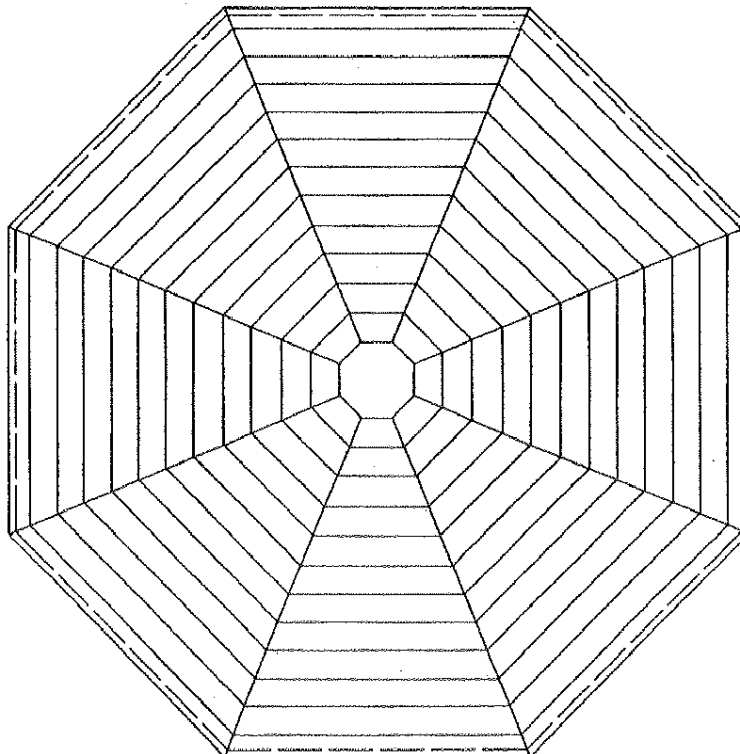

FIGURE B13
6. To complete the decking, attach one 3" screw from the decking into all the short joists. **Figure B13** illustrates the finished floor decking.